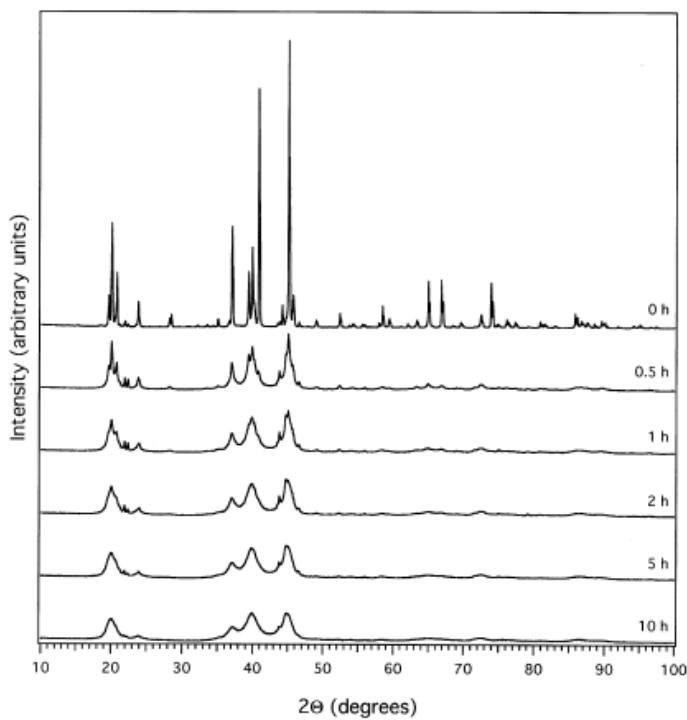

Figure 2 / Rajah 2
- [c] Figure 2 shows XRD patterns for the Mg₂Ni intermetallic ball-milled in vacuum atmosphere. Based on this data, analyse the preparation of Mg₂Ni intermetallic by ball-mill technique.